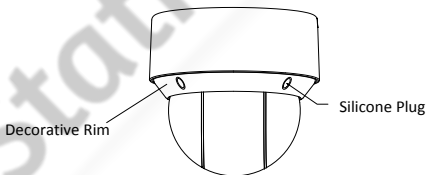

Figure 2-9 Remove the Silicone Plugs
1. Remove the four silicone plugs on the decorative rim as shown in Figure 2-9, and you can see four flange screws in the decorative rim.